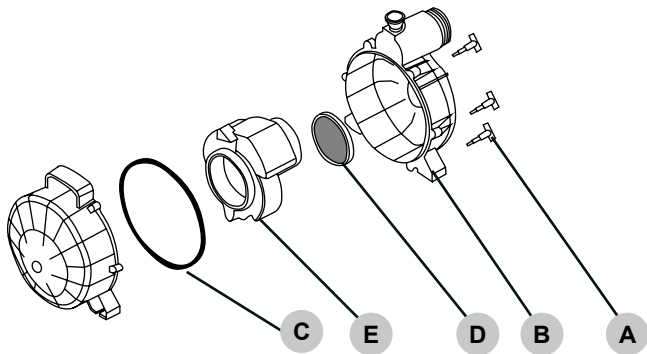

Fig. 24
6. Remove the outer pump housing cover bolts (Fig. 24 - A)
7. Remove the outer pump housing cover (Fig. 24 - B) and its rubber seal (Fig. 24 - C).
8. Remove the check valve (Fig. 24 - D).
9. Remove the impeller/volute (Fig. 24 - E).